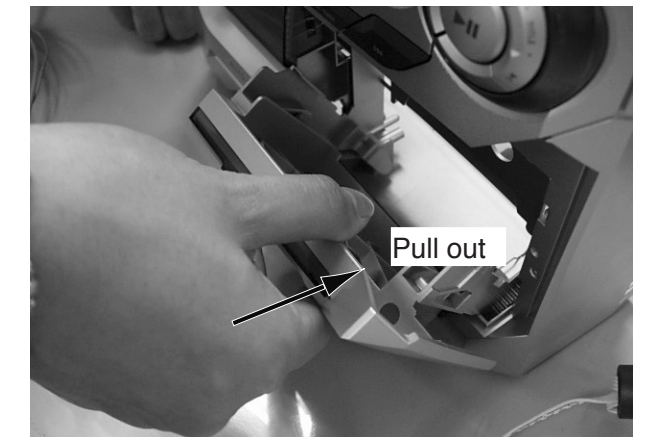

Figure 9
- 4) Pull out the cassette deck as shown in figure 9.